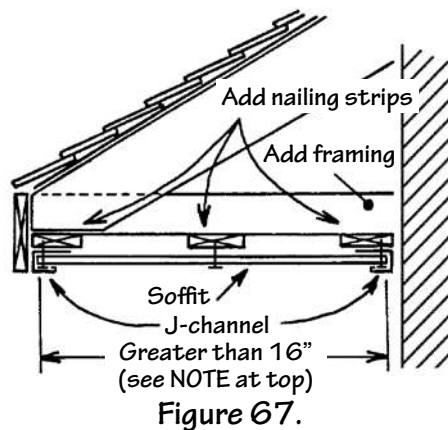

Figure 67.
NOTE: Nailing strips must be installed as shown in Fig. 67 if the eave span is greater than 16" (406mm), unless otherwise specified in the soffit manufacturer's instructions. In areas with high wind restrictions, nailing should not exceed 12" (305mm) on center, unless otherwise specified by the manufacturer.
3. In situations with two channels, (Fig. 67), flex the panel between the two channels in-installed. It is critical in this application that the installed nailing strips are wide enough (4" [102mm]) to allow a fastener to attach to the soffit. Make sure the panel is perpendicular to the wall when fastening.